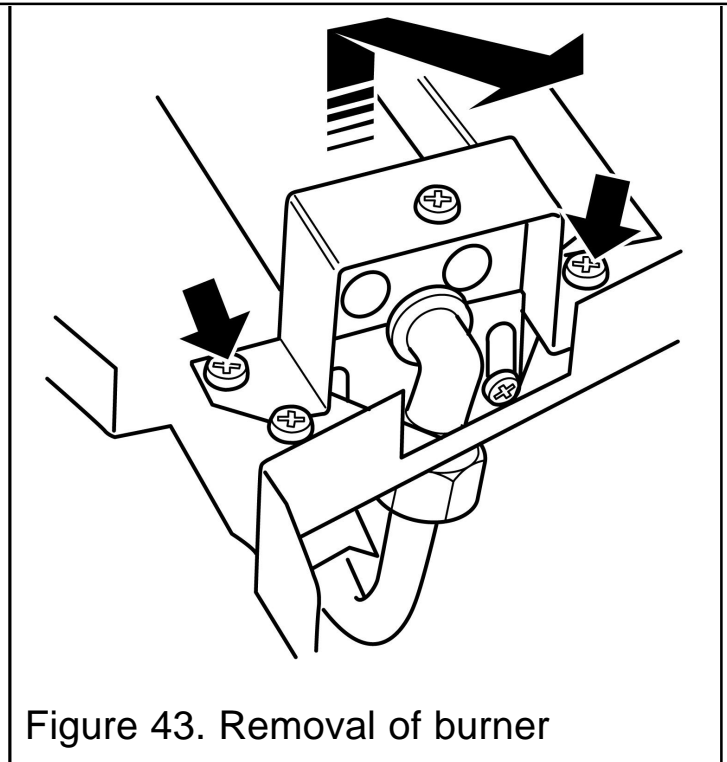

Figure 43. Removal of burner
See figure 43.
3. Remove the two screws from the burner clamping plate (See figure 43)